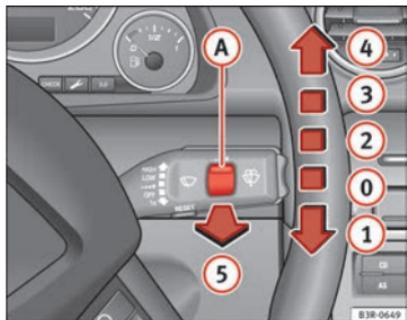

Fig. 100 Windscreen wiper lever
The windscreen wiper lever ⇒ Fig. 100 has the following settings:
With the lights switched on, operate the automatic wash and wipe ⇒ Fig. 100 (5), and keep the lever pulled towards you for at least 1 second.